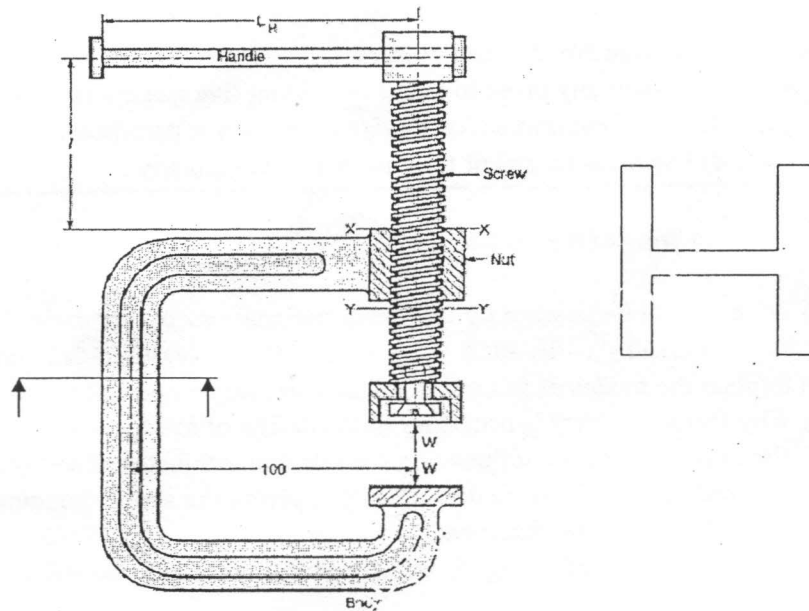

Figure 1 C-clamp
Q.No.2 a) Design a spigot-socket type cotter joint to transmit an axial load of 42 kN. Select appropriate materials for its components and draw its neat sketch showing major dimensions on it. (14)
Q.No. 3 a) State the assumptions made in the analysis of curved beams. (4)
- Design a single start square threaded screw for a C-clamp shown in figure 1. The maximum force exerted by the clamp is 5 kN. Use the following data: (16)
Also, design the I-section as shown by the side of figure 1, taking web = flange = $4t$, where t - thickness of flange and web of the I-section of the clamp body.